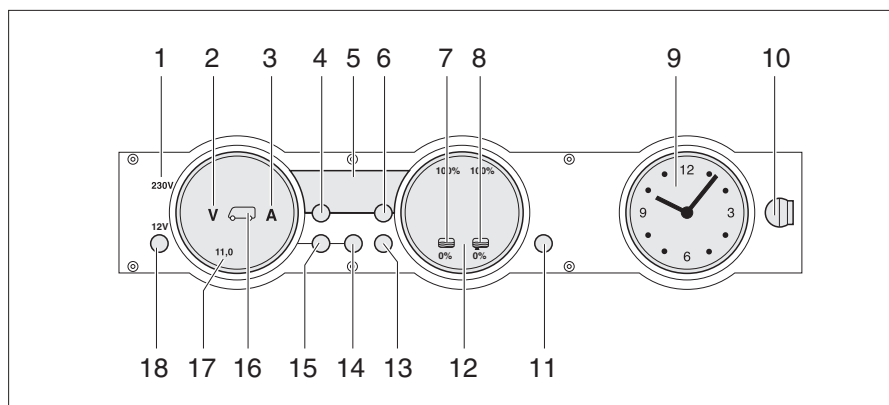

Fig. 225 Panel MP 20-T
The 230 V indicator lamp (Fig. 225,1) lights up whenever line voltage is available at the transformer/rectifier input.
The 12 V main switch (Fig. 225,18) switches the panel and the 12 V power supply of the living area on and off.
- Briefly press the "12 V" button (Fig. 225,18). The 12 V living area power supply is switched on. The "12 V" indicator lights up.
- ▷ If, after switching on, the "11.0" LED of the volt indicator and the "V" volt symbol (Fig. 225,2) in the batteries gauge (Fig. 225,17) flash, the voltage of the living area battery is too low. Charge battery.
- ▷ If, after switching on, the "12 V" indicator, the symbol for the living area battery (Fig. 225,16) and the "V" volt symbol (Fig. 225,2) flash three times, battery separation is activated. Deactivate battery separation.
- Briefly press the "12 V" button (Fig. 225,18). The 12 V living area power supply is switched off. The "12 V" indicator goes out.
- Press button for living area battery (Fig. 225,14) and hold it down for approx. 10 seconds. The "V" volt (Fig. 225,2) and "A" ampere (Fig. 225,3) symbols flash three times. The living area battery is disconnected from the 12 V power supply.
- Press the "12 V" button (Fig. 225,18) and hold it down for approx. 5 seconds. The "V" volt symbol (Fig. 225,2) flashes three times. The living area battery is connected to the 12 V power supply. The indicator lights up after approx. 2 seconds.
- Press button for living area battery " (Fig. 225,14). The "V" volt symbol (Fig. 225,2) lights up. Depending on whether the battery is being charged or discharged, the "A" ampere symbol lights up white or red respectively. The battery voltage and current of the living area battery are displayed using the LEDs in the gauge.
- Press button for starter battery " (Fig. 225,15). The "V" volt symbol (Fig. 225,2) lights up. The battery voltage of the starter battery is displayed using the LEDs in the gauge.
- Press the tanks button  (Fig. 225,13). The water tank  (Fig. 225,7) and waste water tank  (Fig. 225,8) symbols light up. The fill level of the water tank (left-hand scale) and the waste water tank (right-hand scale) are indicated using the LEDs in the gauge.
The "V" volt symbol (Fig. 225,2) and the "11.0" LED flash as soon as the battery voltage falls below 11 V (measured during operation) and there is the threat of a total discharge.